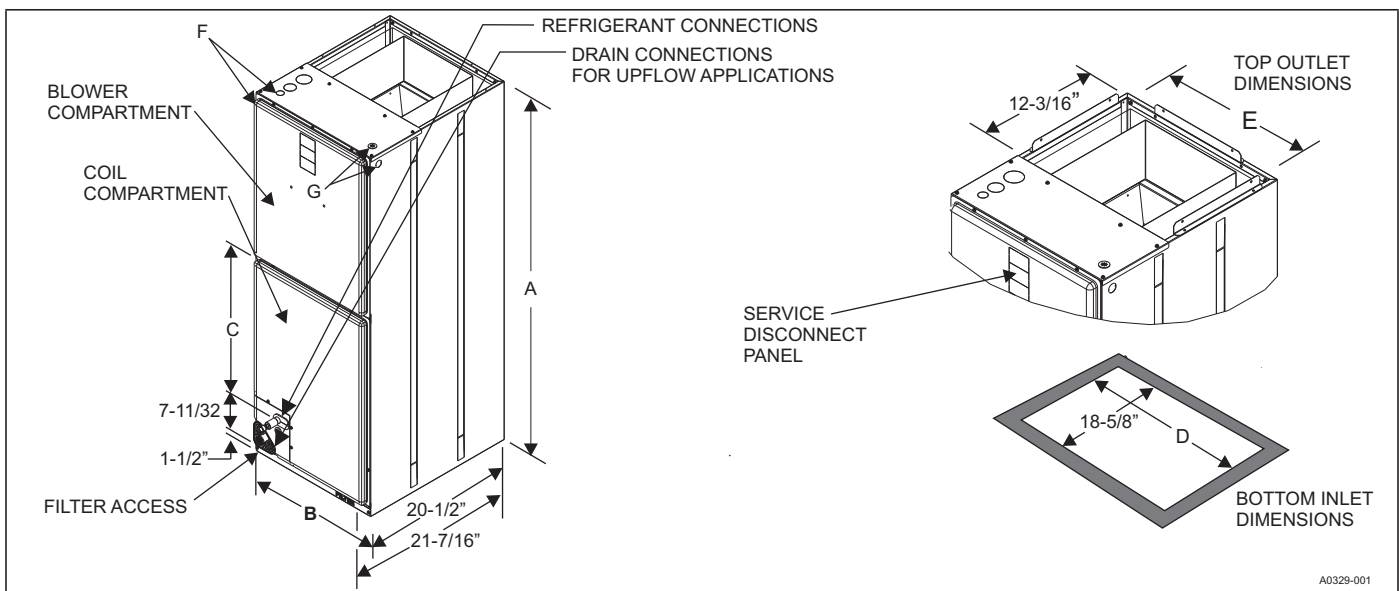

FIGURE 3: Dimensions & Duct Connection Dimensions
6. The unit rating plate displays the air handler model number. The unit dimensions for the supply air plenum are provided in Figure 3 and Table 1 of this Instruction Manual. The plenum must be installed according to the instructions.
1. The size of the unit should be based on an acceptable heat loss or gain calculation for the structure. The ACCA – Manual J or other approved methods may be used. Reference Figure 3 & Table 1.